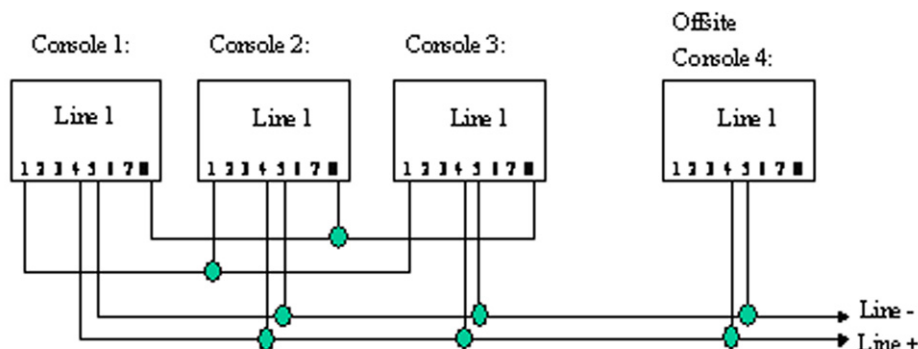

FIGURE 5. Crossmute Function Example
Feedback may be avoided by muting the receive audio of the other consoles which are in parallel with a transmitting console. This can be accomplished by connecting pins 1 and 8 of each of the consoles to be crossmuted, as shown in Figure 5. Pin 8 must be connected to provide a common ground. Figure 5 illustrates the connections between consoles 1 through 3 that are in the same room and when one (1) transmits, the receive audio on the other consoles is muted. Console 4 is off-site with no possibility of feedback, therefore, it is not connected and is not muted.